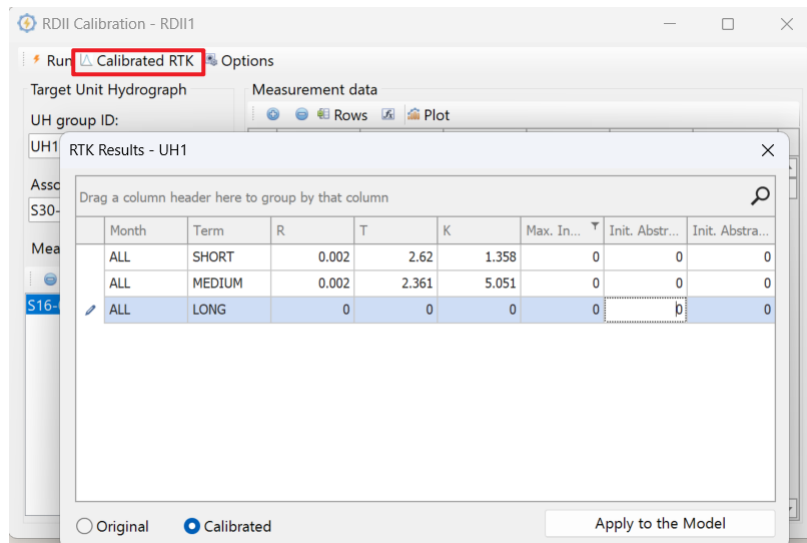

Figure 9: The newly calibrated RTK parameters.
3. The *Calibrated RTK* button will show the newly calibrated RTK parameters using the genetic algorithm. *Apply to the Model* button will use these parameters in the model (**Figure 9**).